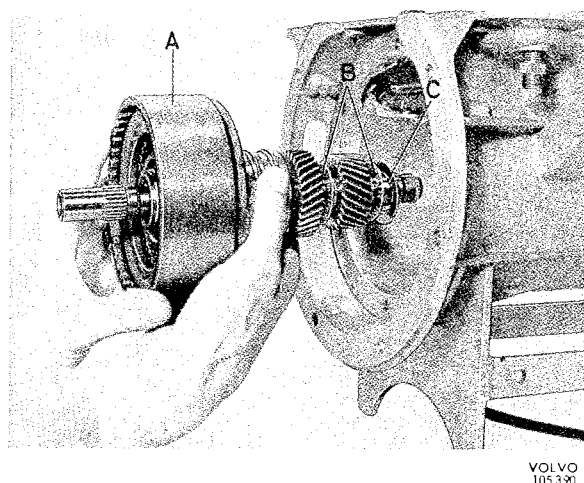

Fig. 4-105. Installing gear clutch and forward sun gear group
15. Install the rear needle thrust bearing and fit the clutch in the gearbox as shown in Fig. 4-105.